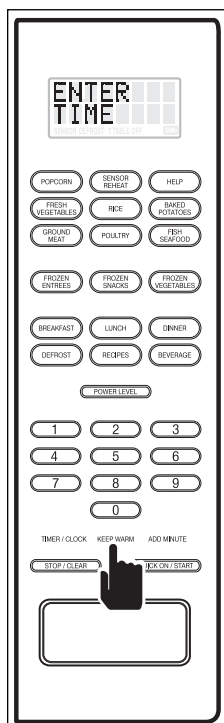

Figure 3-39.
1. Press the KEEP WARM key and “ENTER TIME” will appear on the display (See Figure 3-39).